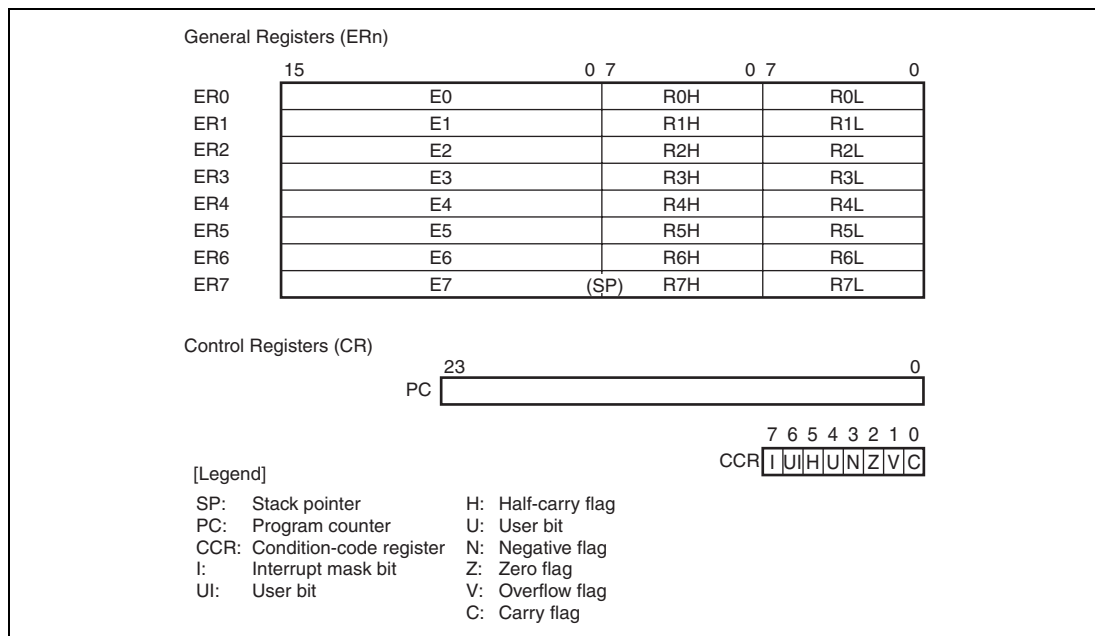

Figure 2.2 CPU Registers
The H8/300H CPU has the internal registers shown in figure 2.2. There are two types of registers; general registers and control registers. The control registers are a 24-bit program counter (PC), and an 8-bit condition-code register (CCR).